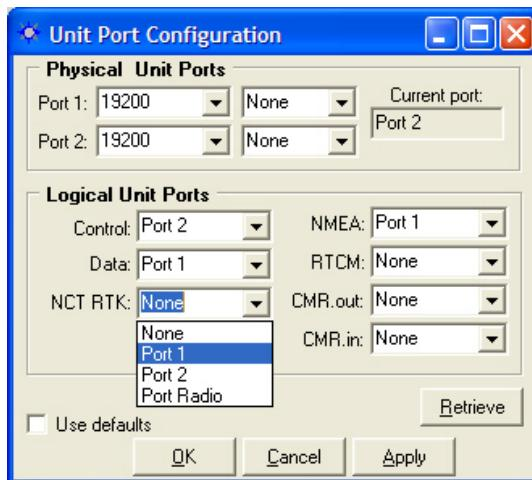

Figure 7: Unit Port Configuration Window
| | Configure Receiver Rover / Navigation & Tracking Settings (see Figure 16) | | Configure Receiver Ports (see Figure 7) |
- ✓ Click the  icon on the toolbar to configure the physical and logical unit ports for specific application requirements. The *Unit Port Configuration* window opens (see Figure 7).
Refer to *Figure 7* for the options below: